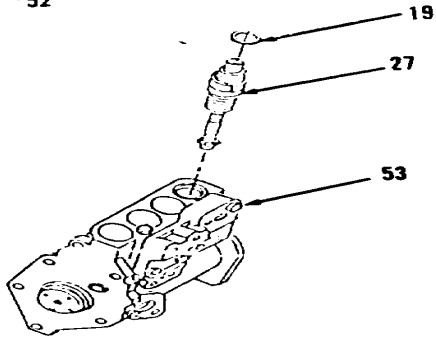

Figure 3-88.
- 31. Install new preformed packing (19) on top of bonnet (27, Figure 3-88).